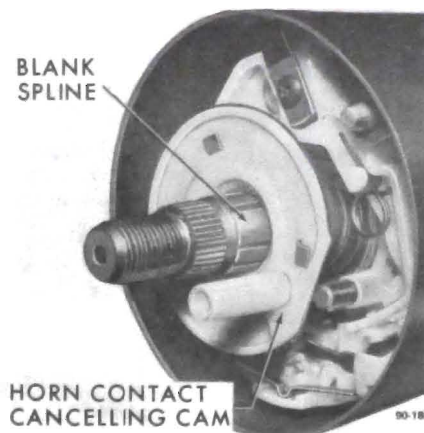

Figure 90-129 - Horn Contact - Cancelling Cam Installed
15. Install the washer, spring and horn contact - cancelling cam on shaft, making certain that the turn signal switch is in "Neutral" and the hazard warning plunger is out. Install the shaft lock plate on the shaft. See Figure 90-129.